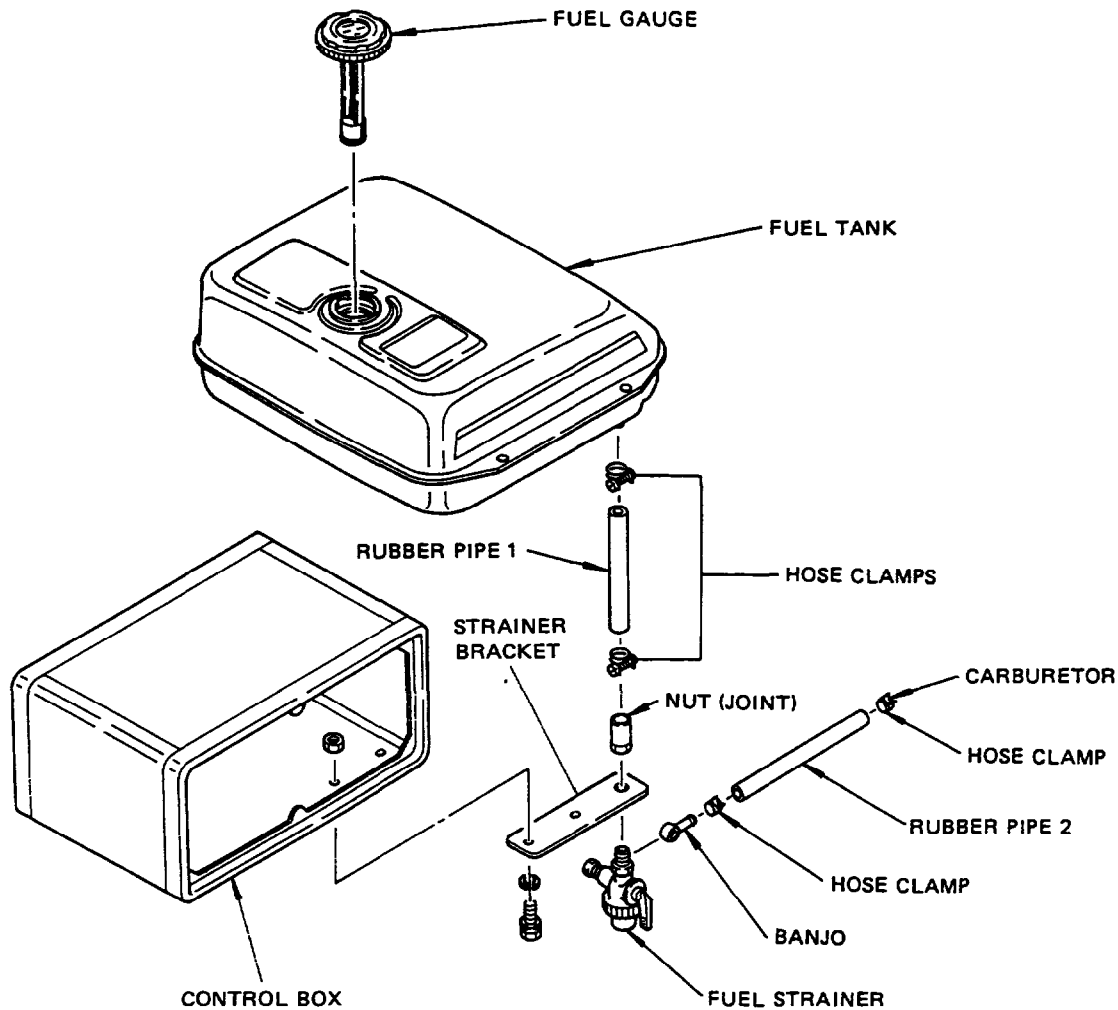

Fig. 10-33
*NOTE: Keep the strainer in the off position until the pipe has been connected. (See Fig. 10-33.)*